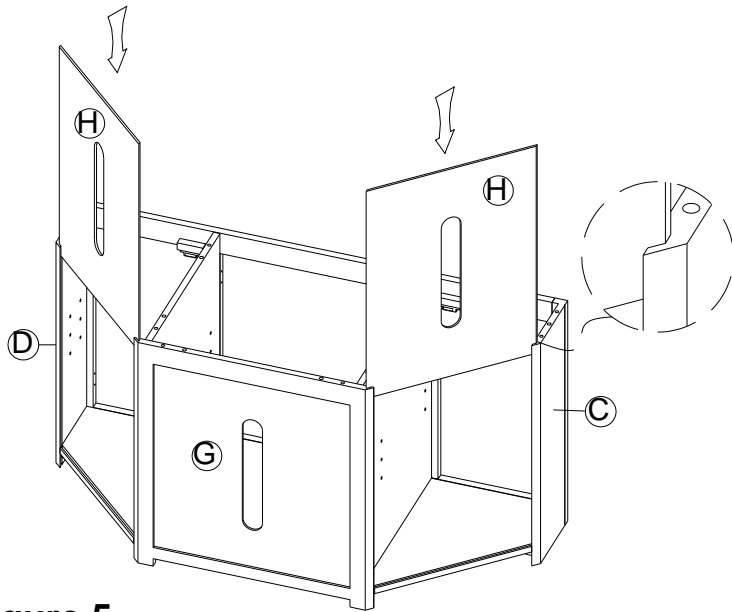

Figure 5
Slide in Back Side Panels (H) into the cabinet as shown in Figure 5.
Insert Cam Locks (2) and Wood Dowels (3) into the pre-drilled holes on the assembled unit from Figure 5.